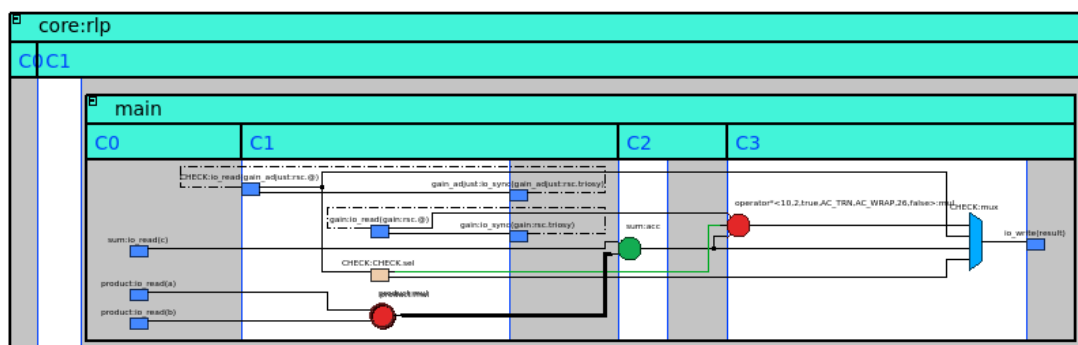

Figure 5. Schedule view.
28. Expand it by clicking on the + sign at the top left of the green box. The design structure is shown, as well as the scheduled operations in the *Schedule* window (Fig. 5).